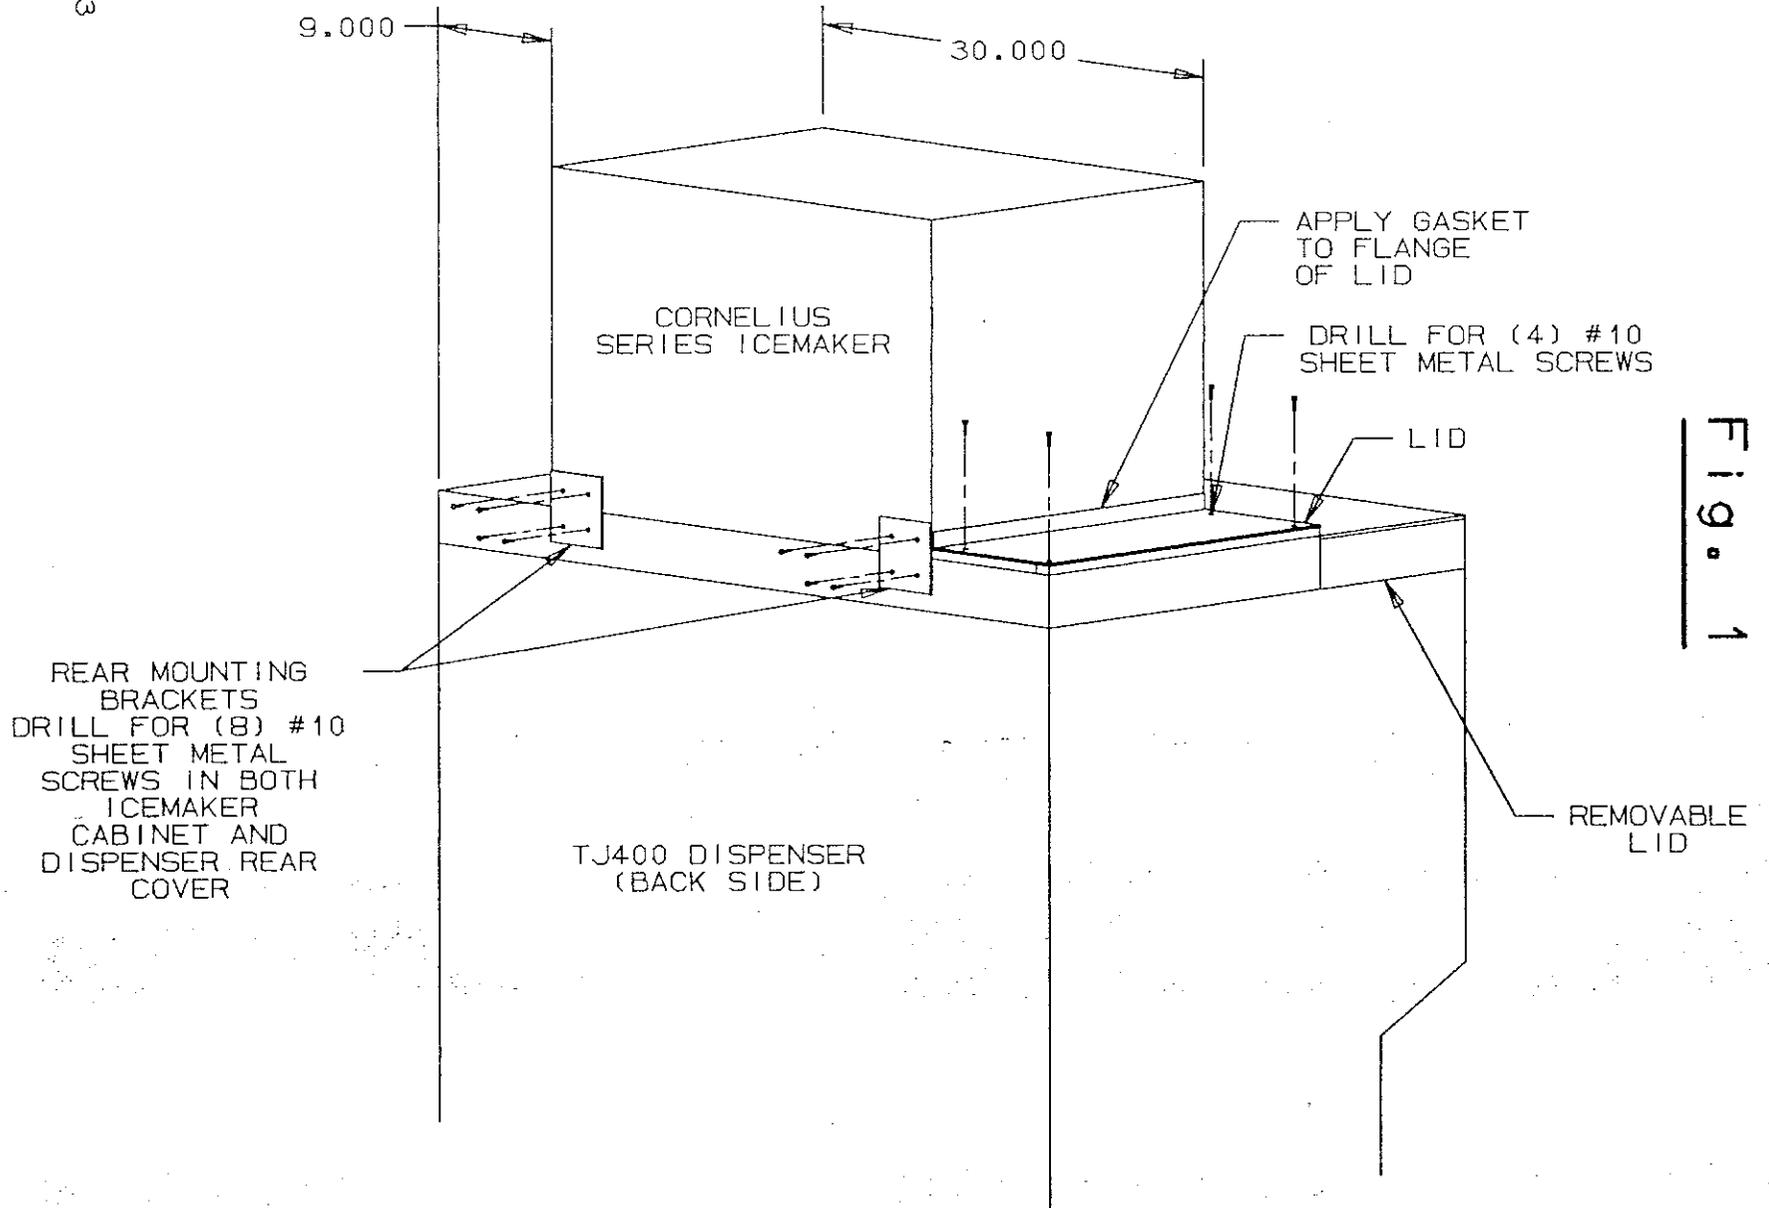

Fig. 1
- 2) Secure ice maker to dispenser with mounting brackets provided. Drilling must not interfere with ice maker components. (Refer to Figure 1 or Figure 2 as required).
- 3) Install adhesive backed gasket strip to the two (2) ^{flanges} flanges.